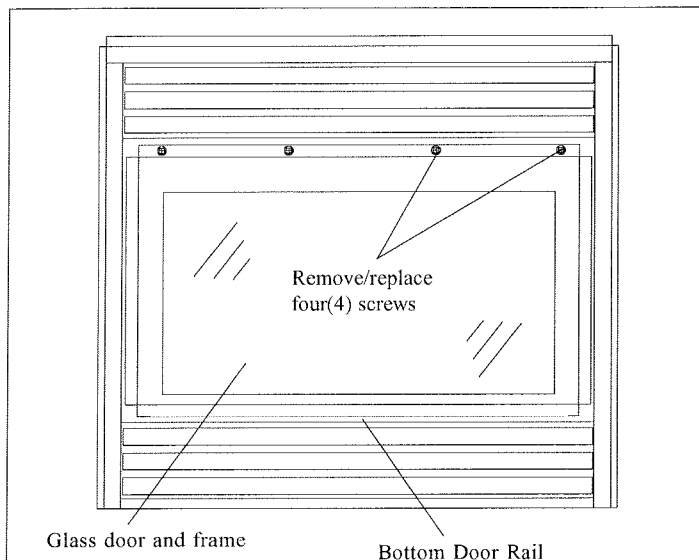

FIGURE 19A. INSTALLING GLASS DOOR
To install/remove the glass door simply attach/remove the four(4) machine screws, align tabs at the bottom of the door with the slots in the bottom door rail (See figure 19A). **Ensure that a good seal is maintained.**